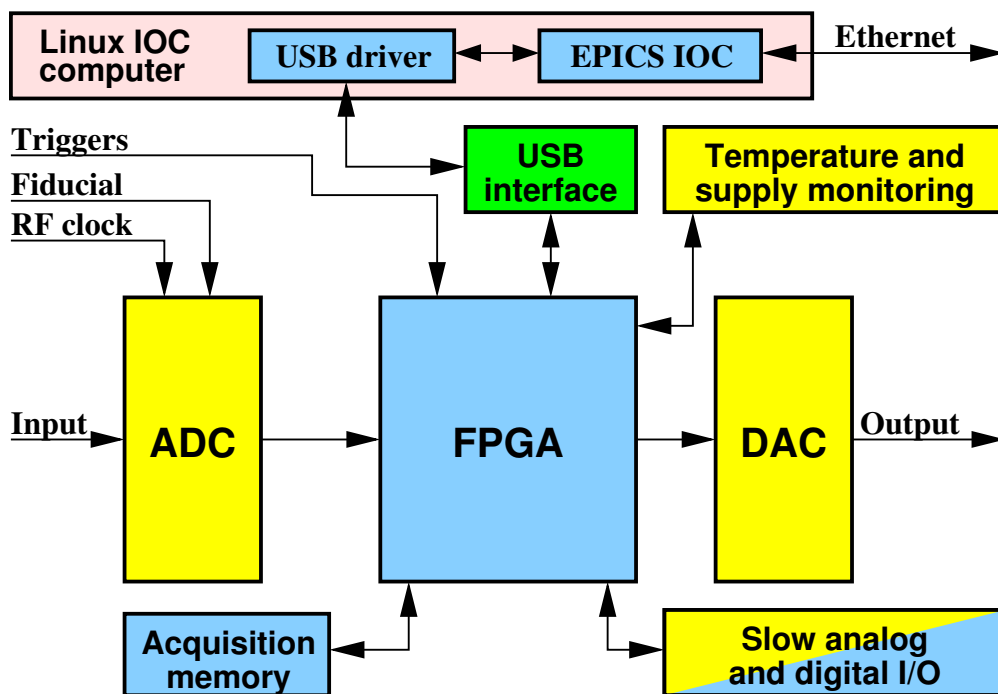

Figure 1: iGp12-400F block diagram
A block diagram of the iGp12-400F system is shown in Figure 1. The main signal processing chain consists of a high-speed 12-bit analog-to-digital converter (ADC), a field programmable gate array (FPGA), and a high-speed 12-bit DAC, all driven by the radio frequency (RF) clock. In addition to performing real-time control computations, the FPGA interfaces to a number of on-board devices, such as high-speed data acquisition memory (static random access memory (SRAM)), low-speed analog and digital input/output (I/O), as well as temperature and supply voltage monitors. In turn, the FPGA uses an internal universal serial bus (USB) connection to communicate to an embedded input-output controller (IOC) computer housed in the same chassis. The IOC runs the Linux operating system and is connected to the overall control system via the Ethernet.